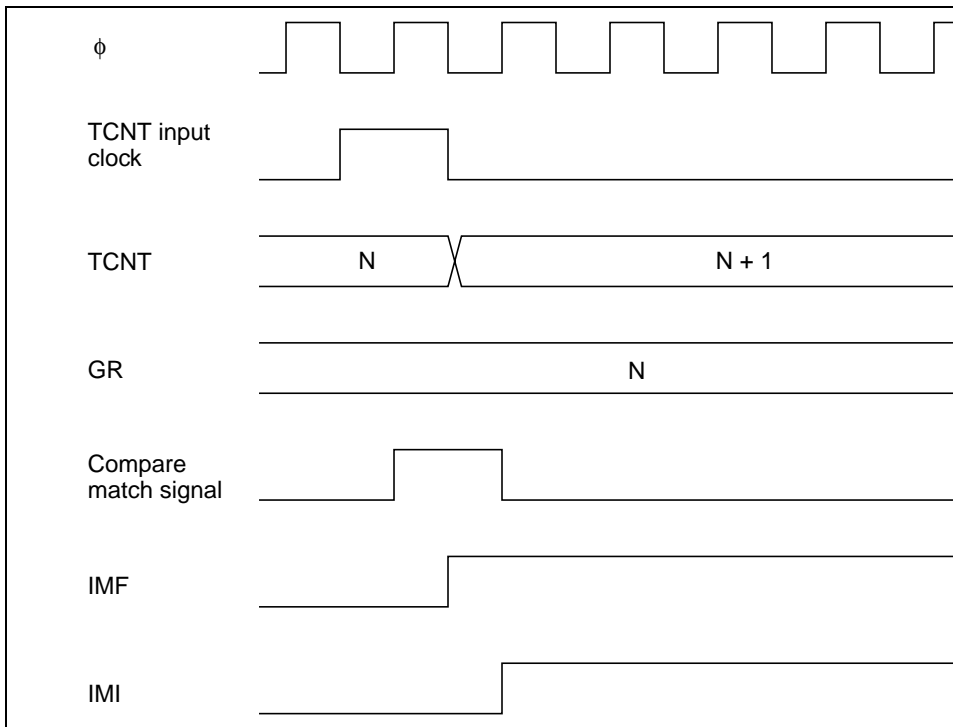

Figure 8.57 Timing of Setting of IMFA and IMFB by Compare Match
IMFA and IMFB are set to 1 by a compare match signal generated when TCNT matches a general register (GR). The compare match signal is generated in the last state in which the value of TCNT is equal to the value of GR (when TCNT is updated from the matching count to the next count). Therefore, when TCNT matches a general register, the compare match signal is not generated until the next time the TCNT is updated. Figure 8.57 shows the timing of the setting of IMFA and IMFB.